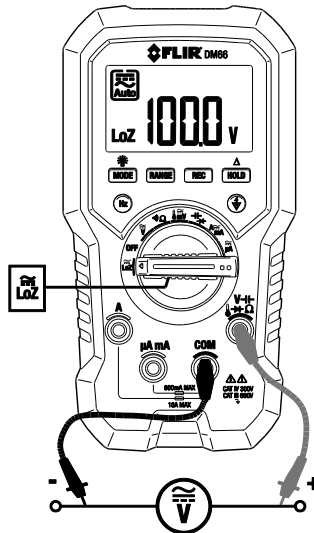

Figure 6-2 – LoZ application diagram
**Auto Voltage Lo Z** mode automatically selects DCV or ACV, based on input levels detected through the test leads. This mode uses a 'Lo Z' low ramp-up impedance (approx. 2.1k $\Omega$  for low voltages) to drain ghost voltages\*. Refer to Fig. 6-2 for function switch position, test lead connection, and display example.